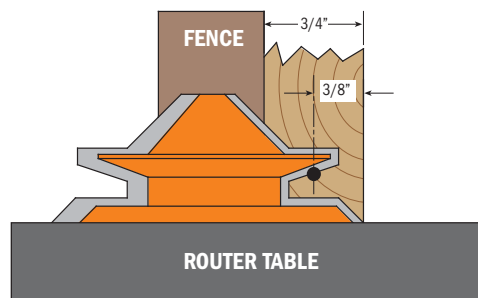

Fig. 2
Step 2: Mill the second workpiece with the inside face of the stock placed against the fence and vertical in relation to the router table, as shown in Fig. 2. Use pusher blocks to move the workpiece, and use featherboards or other hold-in devices to keep the stock firmly against the fence.